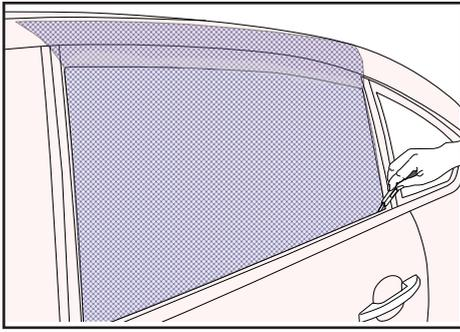

Figure 26
- › Cut the film at the bottom of the window and at the 2 lateral sides 1 mm (0.04 in.) from the seals. (FIG. 26)